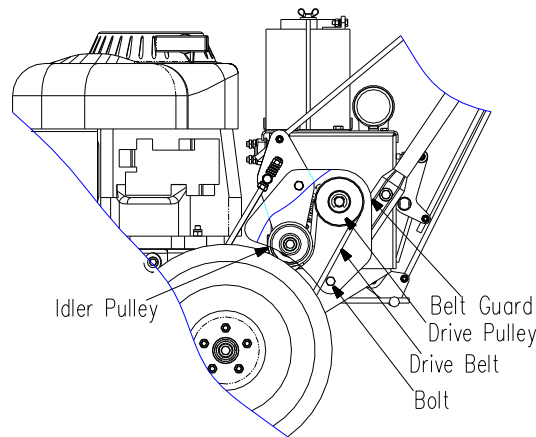

FIG 12
- Adjusting control rod: Remove hair pin on the top of control rod, pull out the control rod from steering lever, turn the control rod so that the length of two control rods is the same and reinstall all parts in proper order. (See FIG 12)
- When the mower pulls left or right or is not driving in line in normal conditions, the steering linkage on left, right or both sides needs to be adjusted. Check tire pressure. See FIG 12.